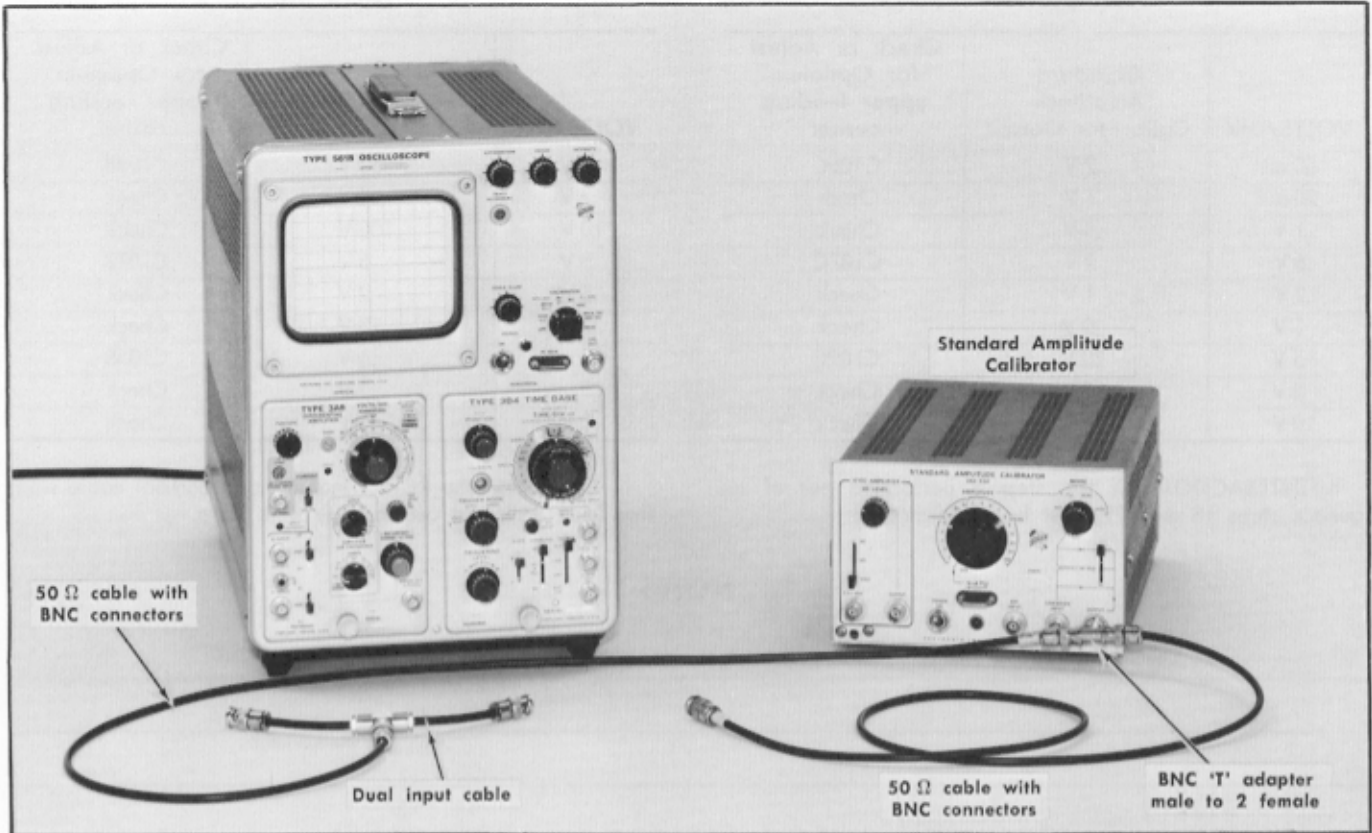

Fig. 5-25. Equipment required for step 20.
20. Check or Adjust — Input Attenuator ❶
- a. Test equipment is shown in Fig. 5-25.